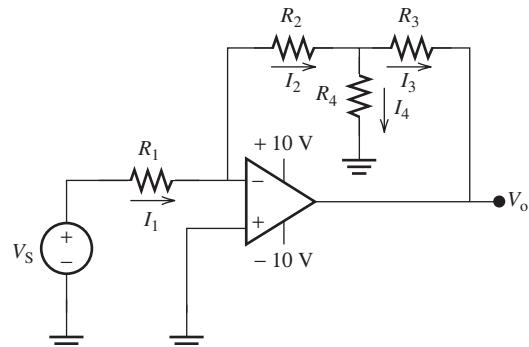

FIGURE P8.73 Advanced op amp circuit.
8.73 (H)* Find the formula for the voltage gain for the amplifier shown in Figure P8.73.